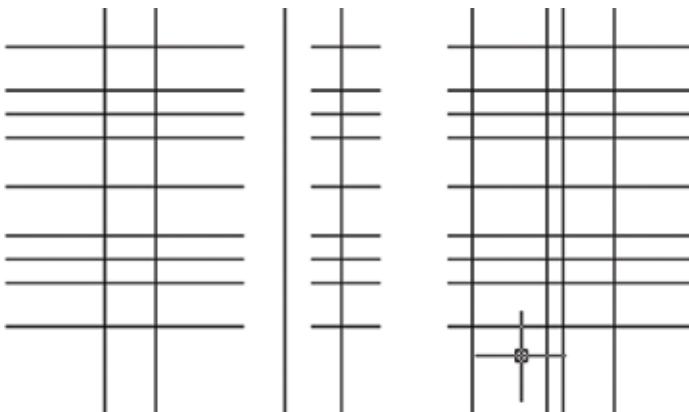

Figure 9.7
- If you offset the centerline the distance specified to create an intersection for each circle, your drawing should look like Figure 9.7.